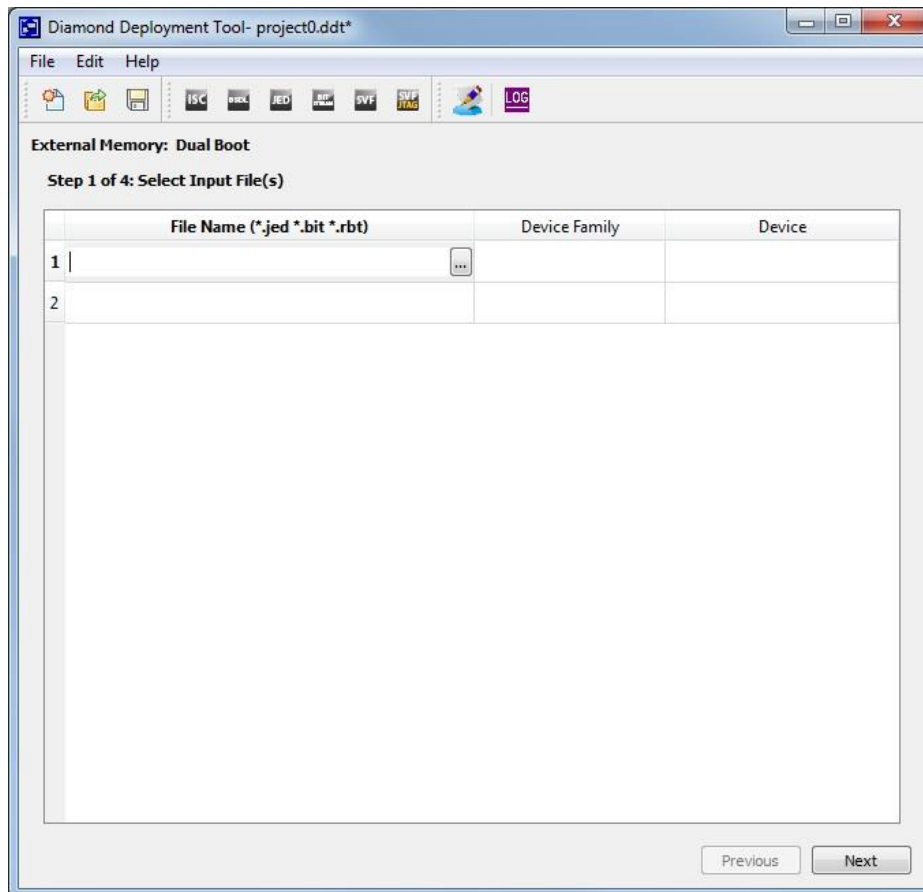

Figure 4.6. Select Input Files (1)
4. To generate the Dual Boot file, click the blank area under the **File Name** field. The ... button appears (Figure 4.6).